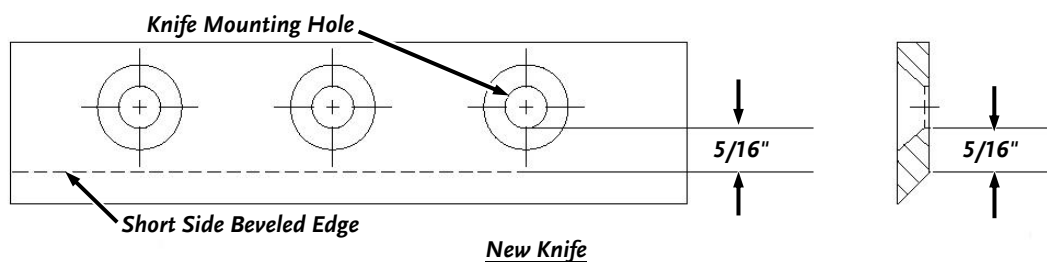

Figure 19
- A new Chipper Knife has a 5/16" measurement between the short side bevel edge and the Knife mounting holes (**Figure 19**).